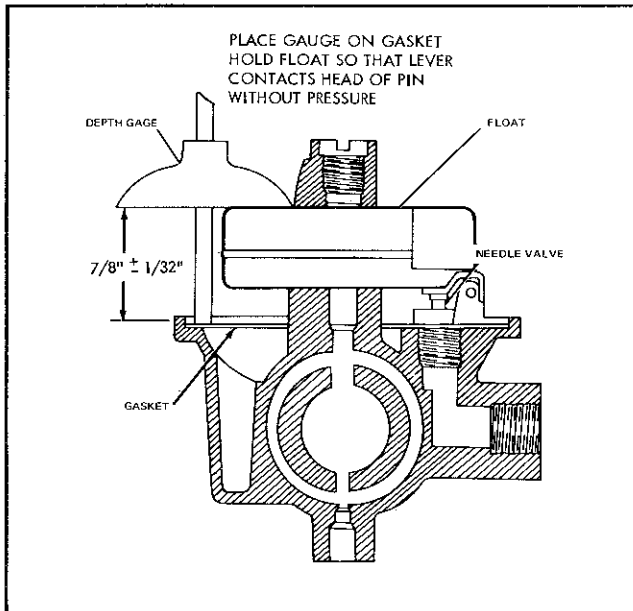

Figure IV-28 Carburetor Float Setting
- Lay throttle body down with fuel bowl side up and install bowl-to-body gasket (11).
- Install washer (21) and fuel valve seat (part of 20). Use large screwdriver to tighten seat to 100 in-lbs. Insert valve, spring and pin (parts of 20) into seat.
- Install float (9) and float axle (10) on support brackets of throttle body. Check operation of the float to be sure the hinge and axle do not bind and that the float moves in a perpendicular direction.
- Install throttle stop screw (7) and spring (8). Adjust screw to open throttle slightly.
- Install idle adjusting needle (5) and spring (6). Screw needle clockwise until it seats lightly against the idle discharge hole, then back it out 1½ turns as a preliminary idle adjustment.
- ## 5. Float Setting (SEE FIG. IV-28).